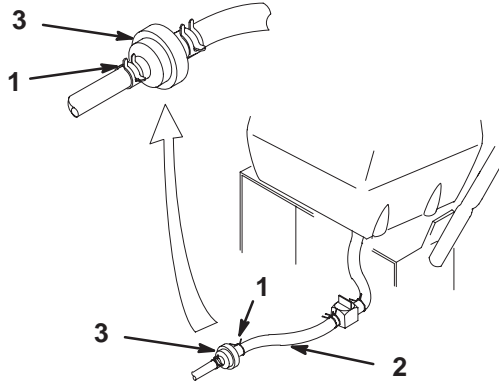

Figure 31
3. Squeeze the ends of the hose clamps together and slide them away from the filter (Fig. 31).